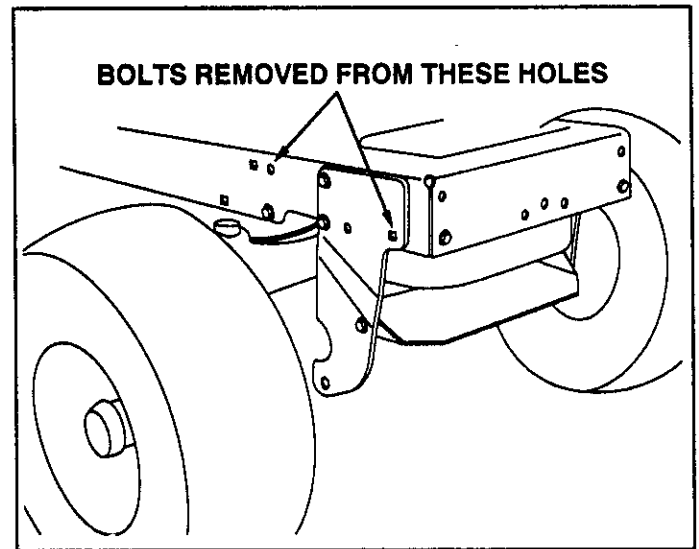

FIGURE 1
- Remove and save two bolts from each side of the tractor frame as shown in figure 1.